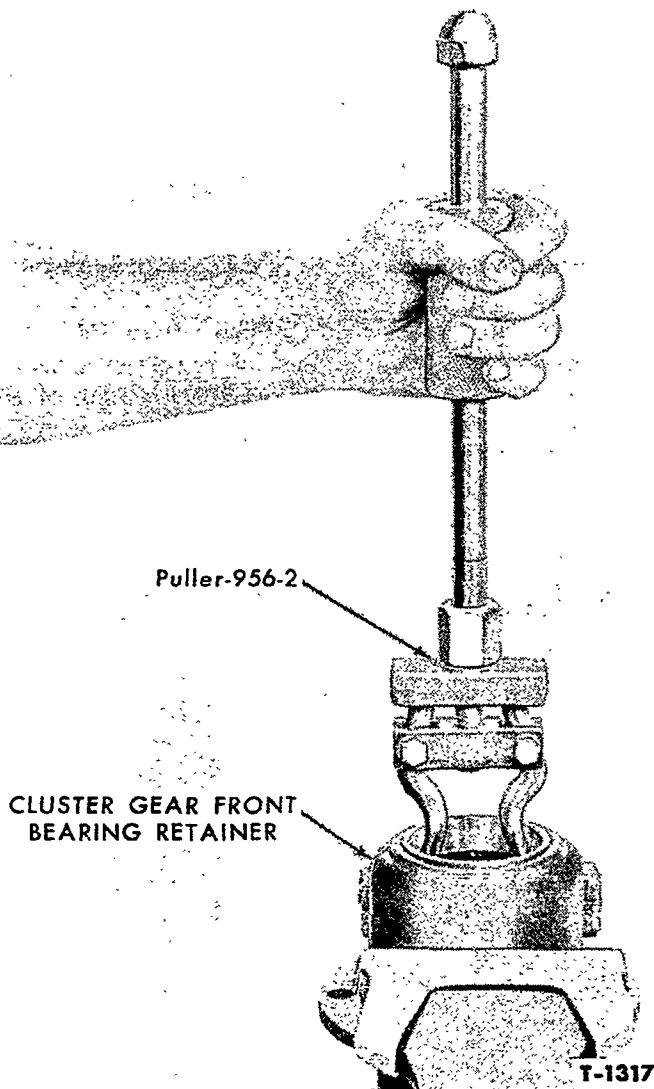

Figure 16—Removing Bearing Cup from Cluster Gear Front Bearing Retainer
1. Remove the bearing cup with Puller 956-2 and a slide hammer as shown in Figure 16.